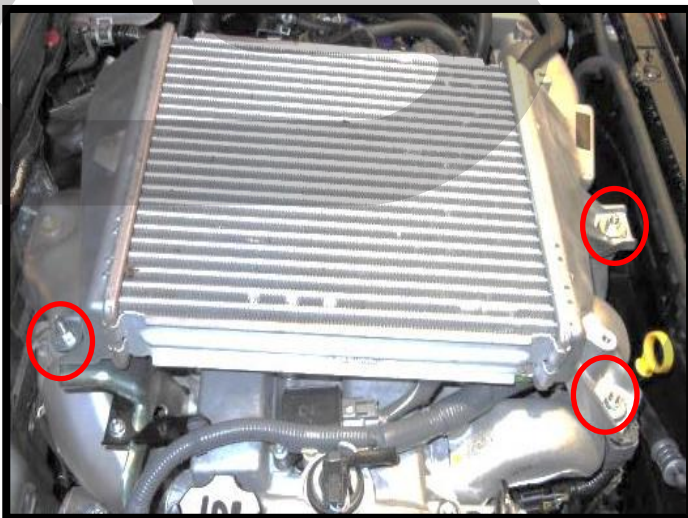

Figure 3c
- e. Remove the three 12mm nuts that attach the intercooler to the top of the engine. Nuts shown circled in red in Figure 3c.